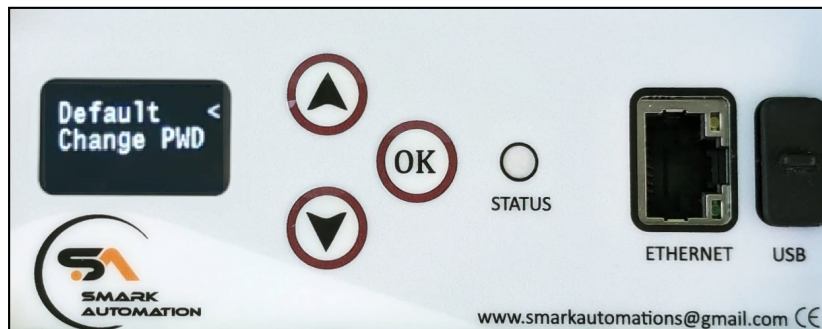

Figure 32: Admin Configuration Menu Option
3. **Choose an Option:** Two options will appear: "Default" and "Change Pwd" as shown in Fig 32.